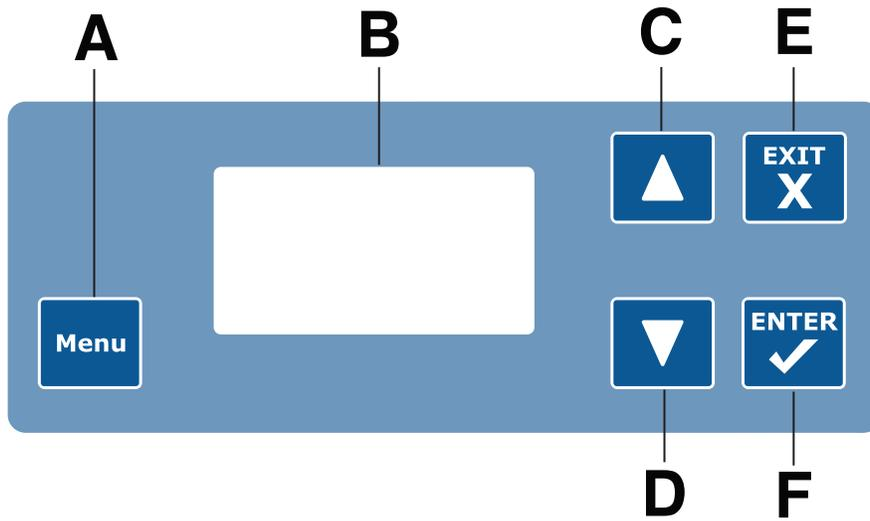

Figure 40 – Menu
To access a menu option, press **Menu** (A) (Figure 40).
1. Press **Menu** (A) (Figure 40).
3. Press **Enter** (F) (Figure 40).
3. Press and hold **Enter** (F).
5. Press **Enter** (F) (Figure 40).
7. After you add or remove equipment or devices from the product, press **Enter** (F) (Figure 40).